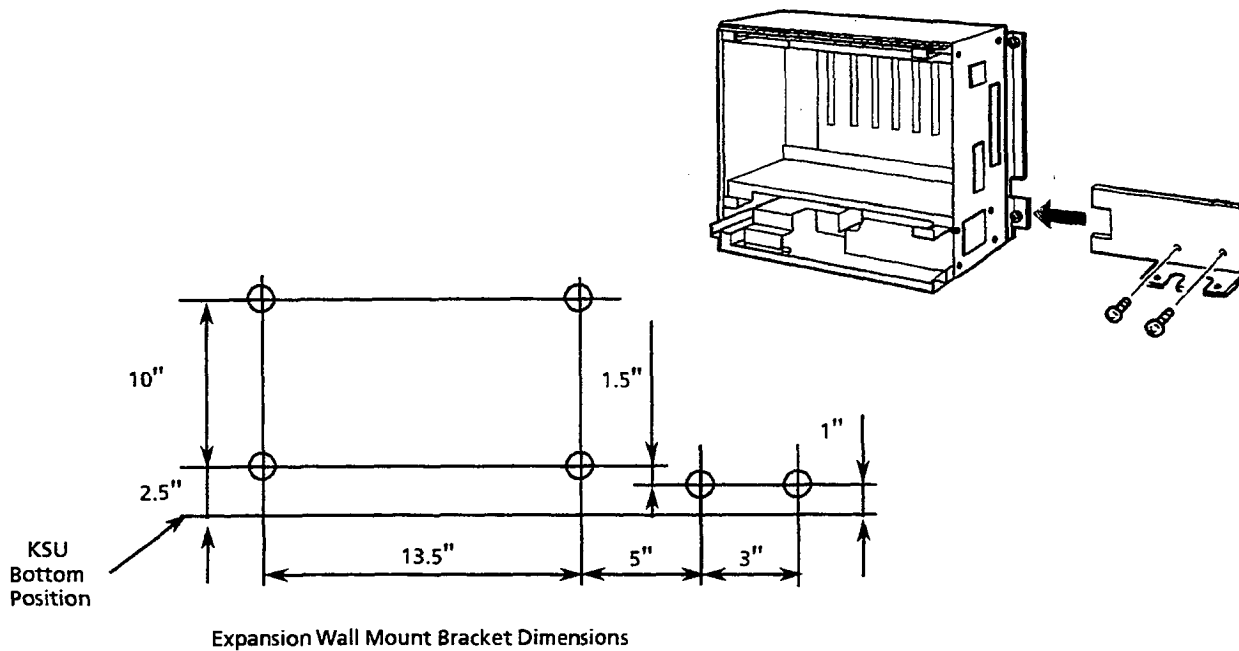

Figure 3-14 Attaching the Wall Mount Bracket of the Level II Expansion KSU to the Wall
2. Attach the ESF-SE-10 KSU wall mount bracket to the existing ESF-SB-10 KSU wall mount bracket and secure it to the wall using two (locally provided) screws. Refer to Figure 3-14 - Attaching the Wall Mount Bracket of the Level II Expansion KSU to the Wall.